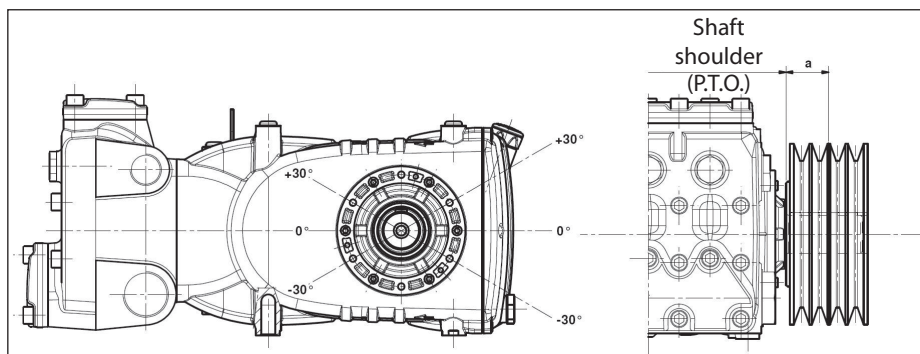

Fig. 10
The radial load on the shaft must not exceed 7500 N (value necessary for Layout definition). The transmission is considered adequate if the load is applied at a maximum distance $a=40\text{ mm}$ from the shaft shoulder (P.T.O) as shown in Fig. 10.
- b) Use high performance belts – for example **XPB** instead of **SPB** – as a lower quantity of belts for the same transmitted power may be necessary and a consequent shorter resulting distance compared to the shaft shoulder (P.T.O) "a" of Fig. 10.